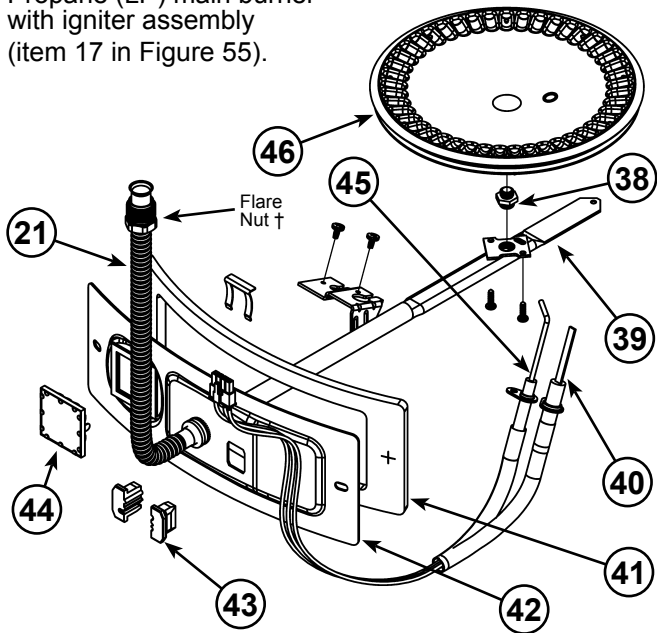

Figure 58
- 46 Stainless Steel Burner (see Figure 4) (see also **Figure 58**)